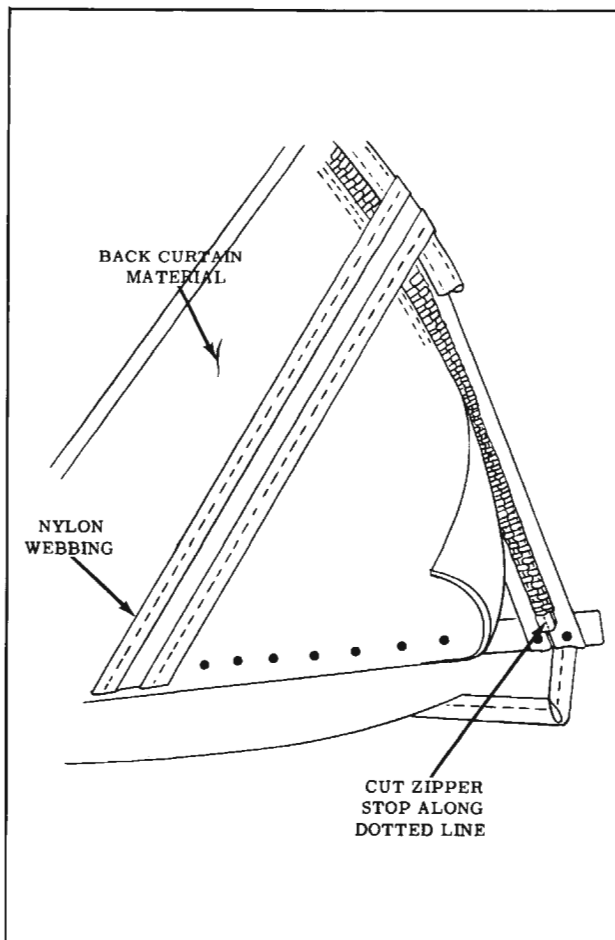

Fig. 16-136 Back Curtain Vinyl Replacement
9. Using a pair of wire cutting shears, cut zipper stop along dotted line and remove both halves of stop from zipper. (Fig. 16-136)